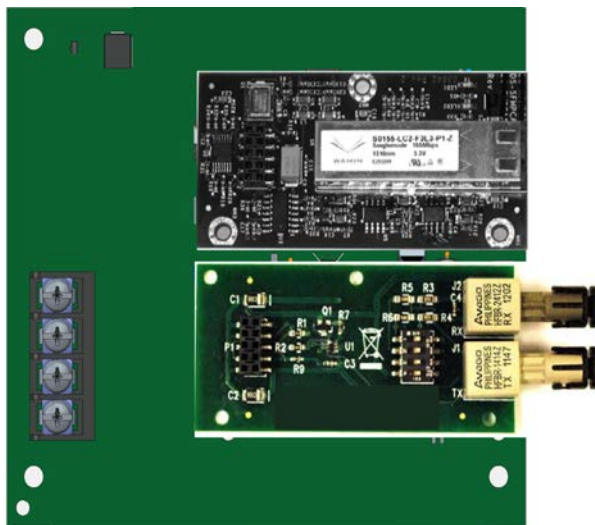

Figure 5.5 SK-NIC with Fiber Loop Modules
Each fiber loop module can Transmit (TX) and Receive (RX) fiber-optic cable connecting to the SK-NIC. Up to two fiber loop cards can be added to the SK-NIC, and both cards may be combined in the same configuration. See Figure 5.5.